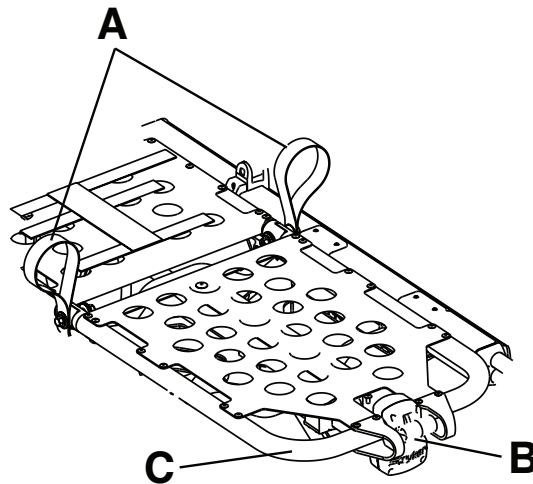

Figure 15 – Gatch
1. Lift either of the red lifting loops (A) until the knee Gatch is in the highest position (Figure 15).
To lower the knee Gatch, lift either of the red lifting loops (A) to relieve pressure on the locking mechanism, and while holding the loop, push on the red footrest release handle (B) until the support bracket is released (Figure 15). Lower the knee Gatch until it lays flat.
To raise the knee Gatch in Trendelenburg, lift the footrest frame (C) as high as possible until the frame locks into place (Figure 15). The support bracket automatically connects when you release the frame.
To lower the knee Gatch in Trendelenburg, lift the footrest frame (C) and, while holding the frame, lift up on the red footrest release handle (B) until the frame releases the support bracket (Figure 15). Lower the footrest until it lays flat.